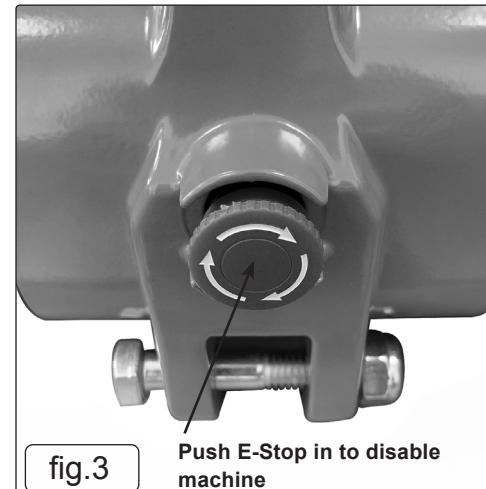

fig.3
Ensure the System/Emergency Stop button is pressed to the disabled position (see fig.3).
- To pause or stop handheld winching in an emergency, push the button. (see fig.3).